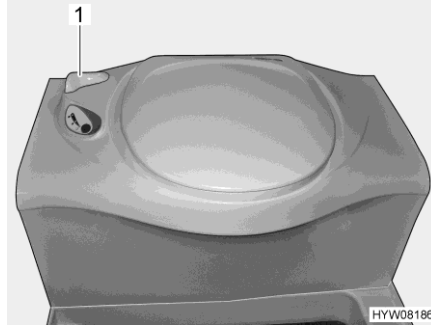

Fig. 276 Thetford toilet
- Before flushing open the sliding trap of the Thetford toilet. To do this, turn the slide lever (Fig. 276,1) in an anticlockwise direction.
- After flushing close the sliding trap. To do this turn the slide lever (Fig. 276,1) in a clockwise direction.